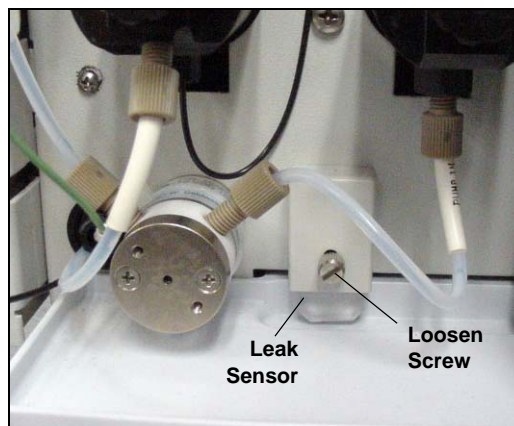

Figure 5-27. Leak Sensor
3. Loosen the screw on the front of the leak sensor (see Figure 5-27). **Note:** The screw remains attached to the sensor.